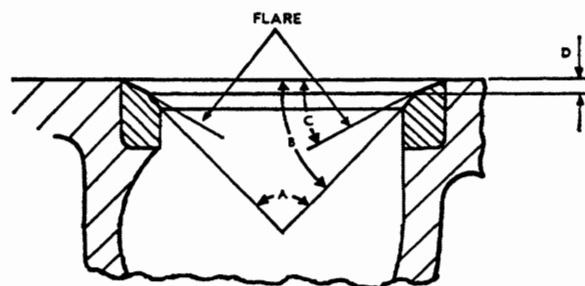

Fig. F13
6. For D3.152 exhaust valve inserts, use the valve guide bore as a pilot to cut the flare to the dimensions given in fig. F13.